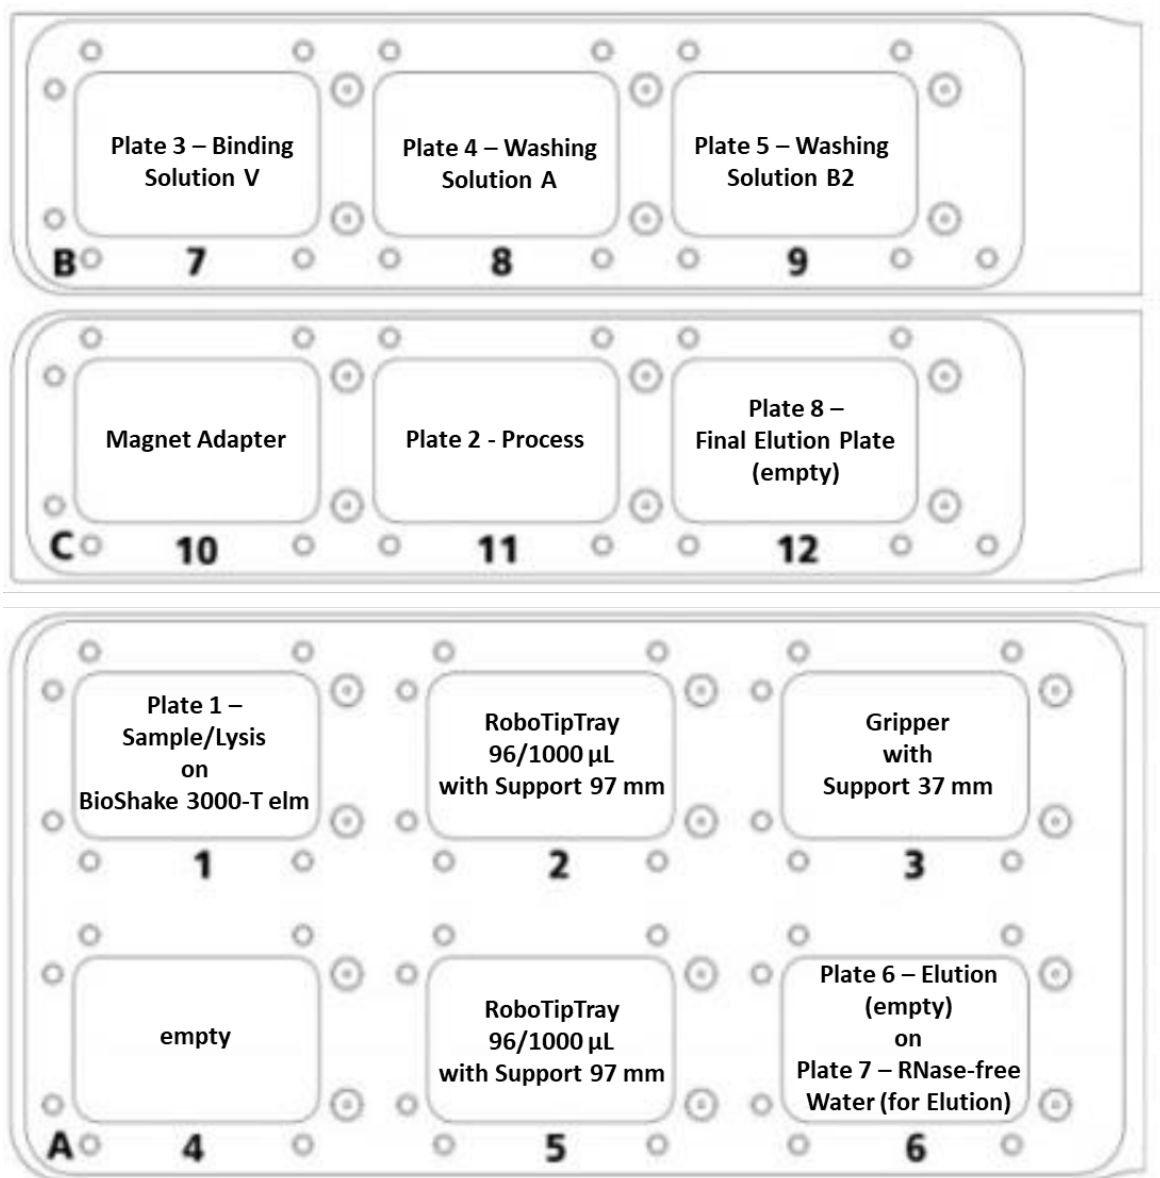

Figure 10: Deck layout for extraction
1. Load all plates and accessories according to the scheme below (→ see Figure 10: Deck layout for extraction").